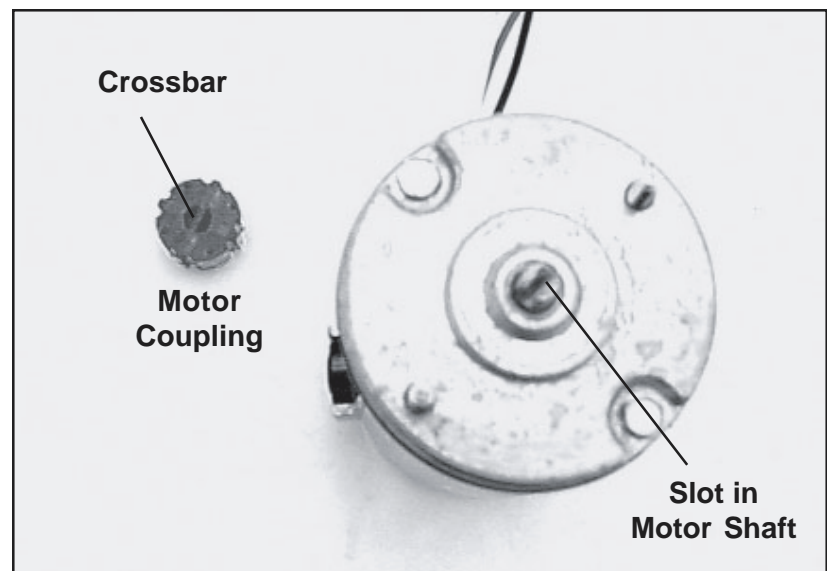

Figure 43. Motor Coupling to Motor Shaft Alignment
4. Pull the coupling off the motor shaft (Figure 43).
1. Align the crossbar on the motor coupling with the slot on the end of the motor shaft (Figure 43) and push the coupling onto the shaft. **Note:** The coupling is symmetrical; either side can be placed on the shaft.